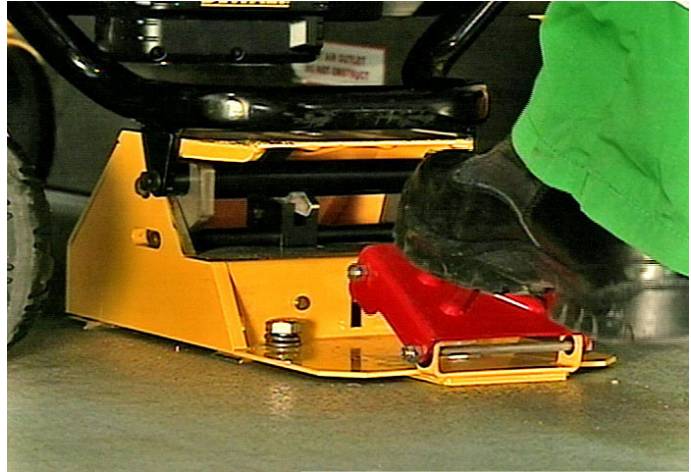

Figure 17 - Press on foot end
1. Press down firmly on the foot pedal until the locking mechanism disengages as shown in Figure 17.